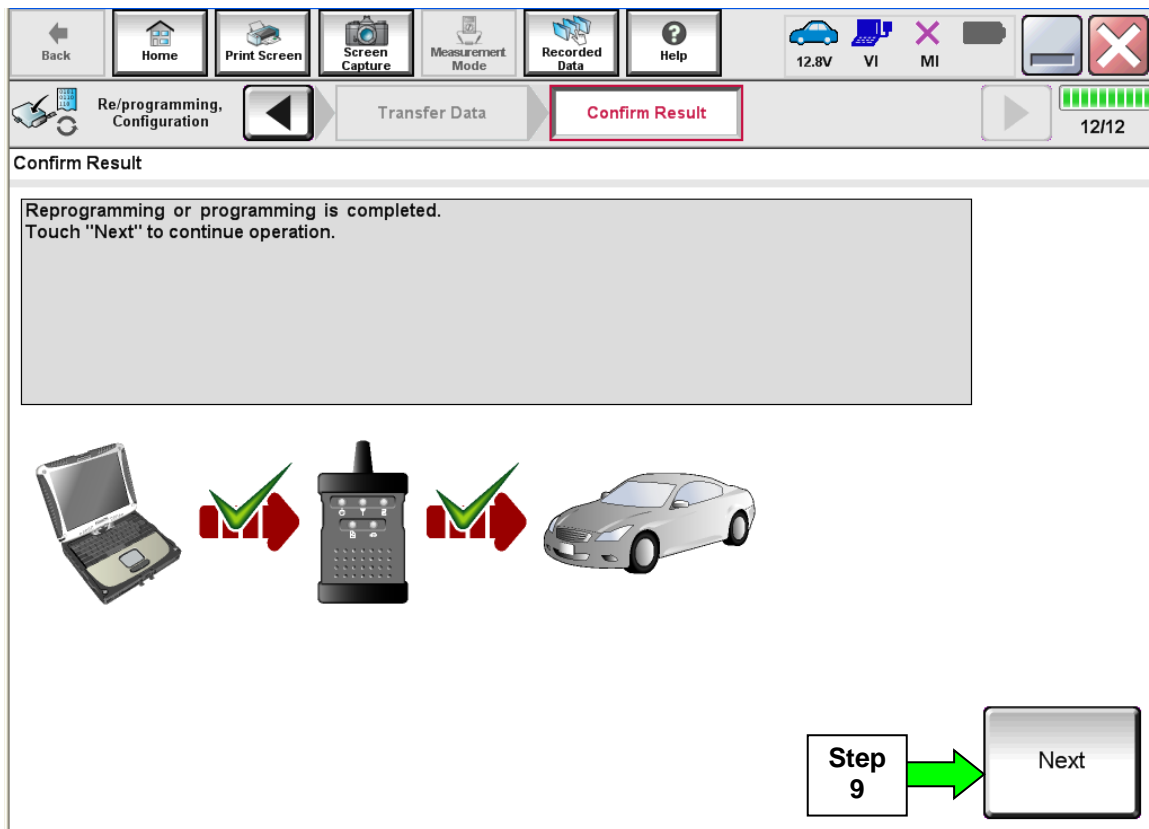

Figure 5
8. When the screen in Figure 5 displays, reprogramming is complete.
**NOTE:** If the screen in Figure 5 does not display (indicating that reprogramming did not complete), refer to ECM Recovery on the next page.